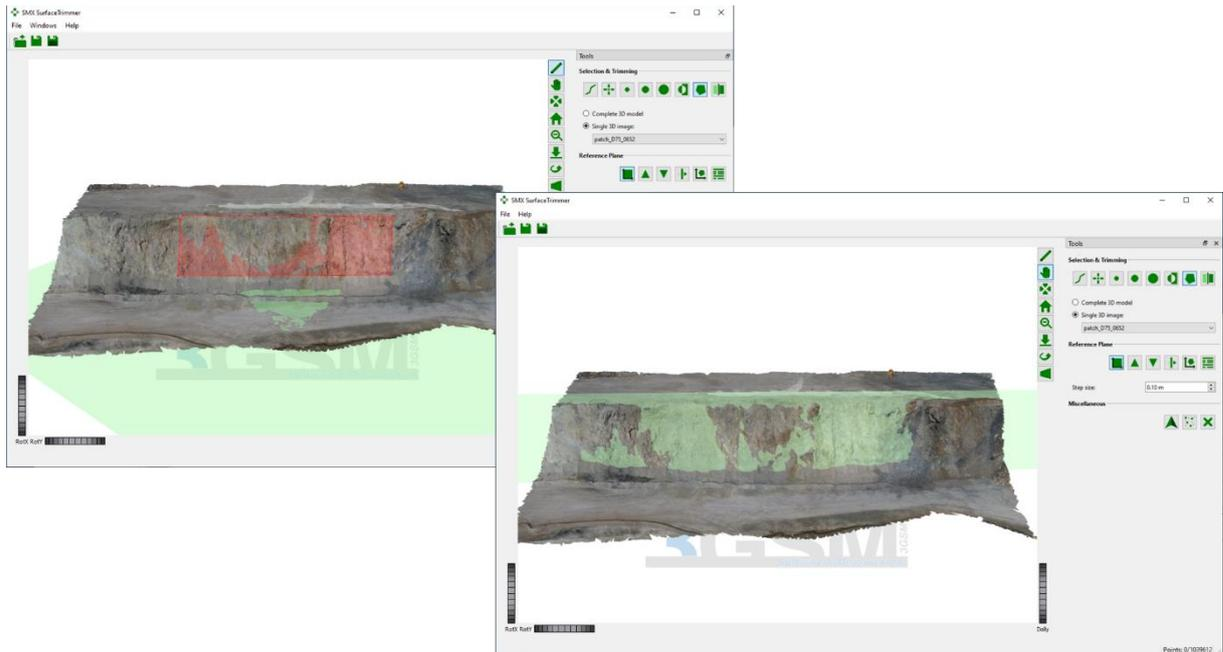

Figure 14: Definition of the Reference Plane: Selection of a polygonal region (left); matching Reference Plane for selected region (right).
2. The *Reference Plane* will be calculated and set by selecting “*Set Reference Plane from Region*”  in the *Tools* pane (see Figure 14)